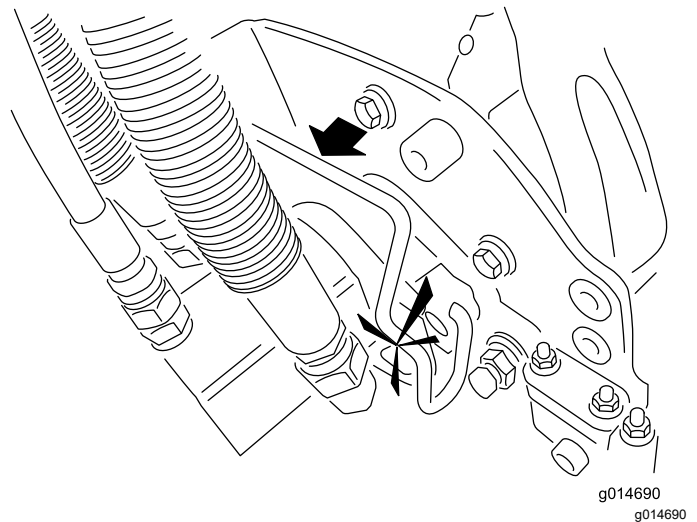

Figure 50
- 5. Coat the spline shaft of the cutting unit motor with clean grease (Figure 50).
- 6. Insert the motor into the left side of the cutting unit (as viewed from the operator's position) and pull the motor retaining bar on the cutting unit toward the motor until you hear a click from both sides of the motor (Figure 50).